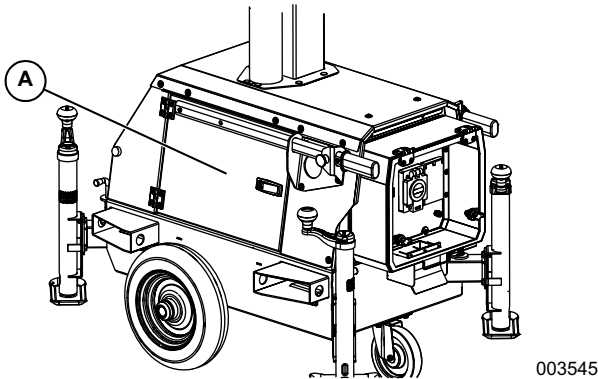

Figure 2-5. Lockable Access Door (2 Locations)
See **Figure 2-5**. Lockable access doors (A) provide cabinet access.